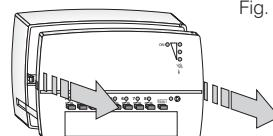

Fig. 4.i
- Remove the front from the base (the resistance to removal is due to the coupling pin on the terminal strip) (fig. 4.i).